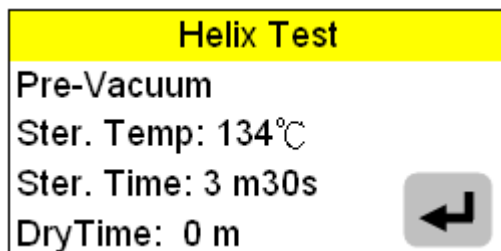

Figure 100
- E. Press  button to confirm the selection of Helix Test Program, as shown in Figure 100.